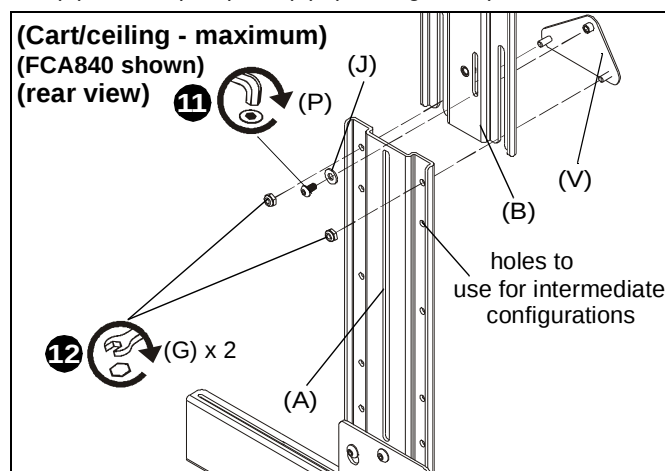

Figure 11
11. (For **maximum/intermediate extension**) Use #10-32 x 3/8" button head cap screw (P) and small washer (J) to secure adapter plate (V) to main bracket (B). (See Figure 11)
12. (For **maximum/intermediate extension**) Use two #10-24 lock nuts (G) to secure upright bracket (A) to main bracket (B) and adapter plate (V). (See Figure 11)